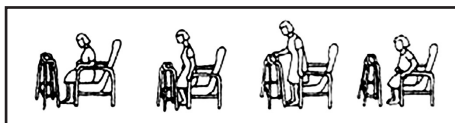

FIG. 5
4. Place hands gently on the chair arms, bend slightly forward and sit down gently (Fig 5).